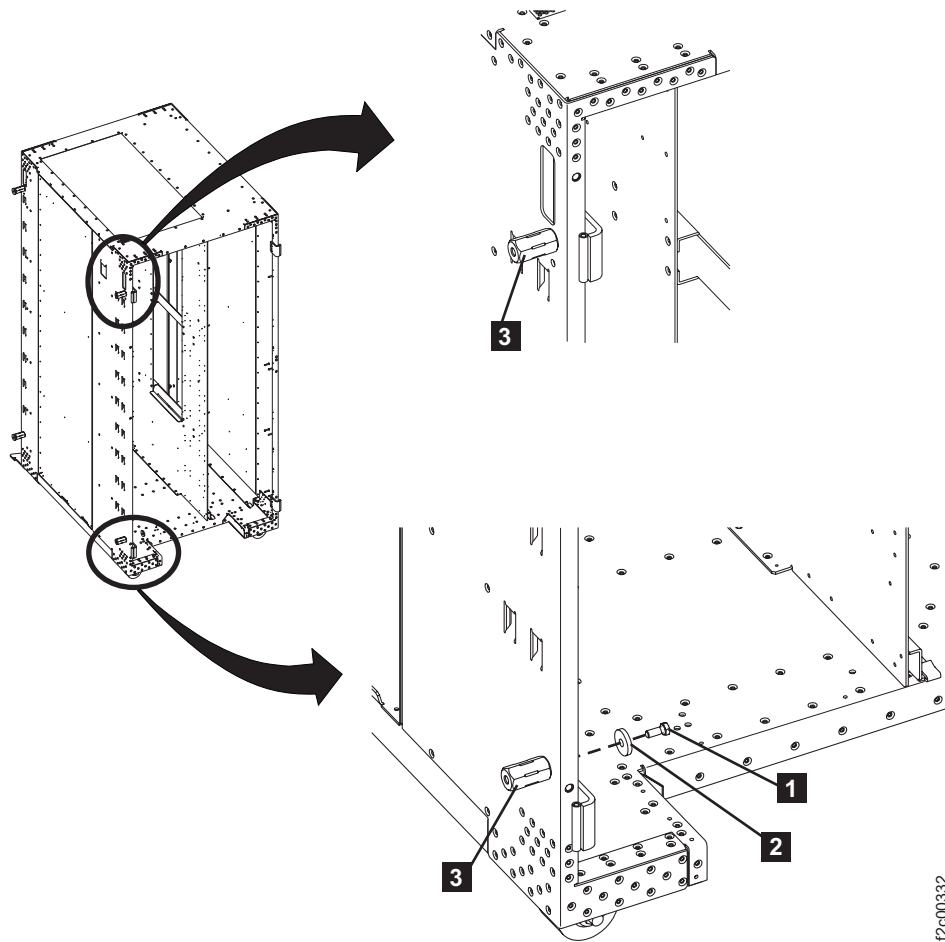

Figure 12. Interrack spacer studs
- a. Refer to Figure 12. Install a spacer stud **3** in the lower rear left corner of the rack using a mounting bolt **1** and a washer **2**. Leave the bolt loose so that it will be easier to align the spacer stud with the bolt from the new frame.
7. In the upper rear left corner of the existing rack, next to the hinge are two holes, one above the other. Use the upper hole and install a spacer stud **3** using a mounting bolt **1** and a washer **2**, see Figure 12 on page 18. Do not tighten the bolt fully as some alignment will be needed. You can hold the side cover next to the spacer studs to ensure the spring clips align properly before going to step 9.
8. In the upper rear left corner of the existing rack, next to the hinge, there are two holes; one above the other. Use the lower hole and install a spacer stud **3** using a mounting bolt **1** and a washer **2**, see Figure 12 on page 18. **Do not** tighten the bolt fully as some alignment will be needed. You can hold the side cover next to the spacer studs to ensure the spring clips align properly before going to step 9.